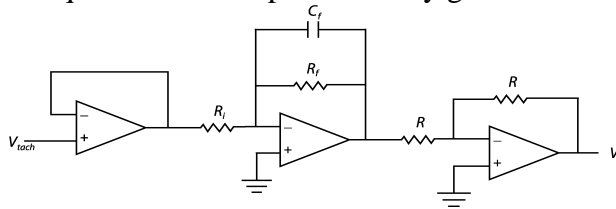

Figure 2. Buffer amplifier filter inverter circuit.
where k_B is the back-emf constant. Weaknesses of the tachometer include noise produced by the internal brushes, voltage fluctuations caused by the individual loops of wire moving through the field, and small output voltages at low speeds. Hence, it is wise to buffer, amplify, and filter the signal from a tachometer rotating at low speeds, as shown in Figure 2. Note that the last op-amp in this circuit inverts the inverted signal from the filter and uses equal resistors to provide unity gain.
6. Start CVI and load and run the project "POT.PRJ" from the "C:\CVI\PROGRAMS\LABS\POT" folder. Set the appropriate sampling rate and number of samples and start the program. There should be two waveforms displayed by CVI, one is the output signal from the potentiometer and the other is function generator input signal. Depending on the quality of signal from your pot, you may choose to buffer, filter, and amplify the signal from the potentiometer according to Figure 2 (substituting v_{tach} with v_{wiper}) to get the best resolution from the data acquisition card and reduce the presence of noise.
9. With the differentiated signal from the potentiometer still connected to AI_CH0, connect the output voltage of the tachometer to AI_CH1 of the DAQ terminal block via the circuit in Figure 2 so that you can see the signal. Again, make educated decisions on the cutoff frequency and system gain for your circuit. Set the appropriate sampling rate and number of samples and start the program. Save the file to disk. The data file contains three columns. The first column is time, second column is differentiated potentiometer signal, and third column is tachometer voltage signal. Use a data-plotting program such as MATLAB or EXCEL to plot your data. Compare the signal from the tachometer with the information provided by differentiating the voltage from the potentiometer.